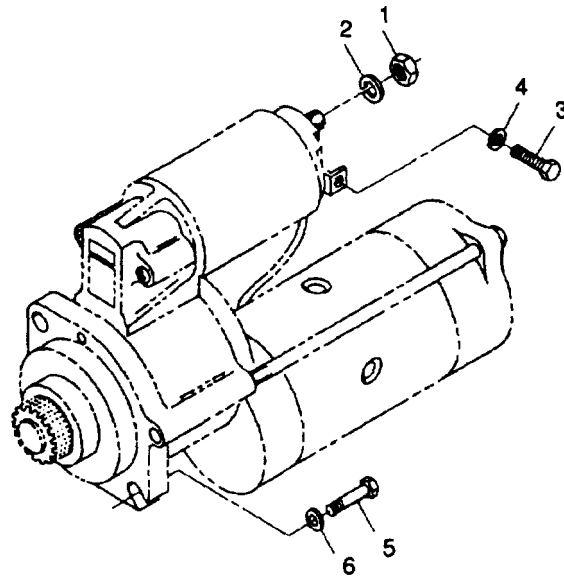

FIGURE 3-21. Starter Connection and Mounting Hardware
- a. Remove nuts (1, FIGURE 3-21), lockwashers (2), capscrew (3), and lockwasher (4). Tag and disconnect all electrical leads. Discard lockwashers.
- b. Support weight of starter and remove two capscrews (5) and washers (6) securing starter. Remove starter.
- (5) Adjust gap by increasing or decreasing number of fiber washers between solenoid and front bracket. Increasing number of washers decreases gap and decreasing number of washers increase gap.
- b. Position starter in flywheel housing and secure with two capscrews (5, FIGURE 3-21) and washers (6). Tighten capscrews to 30 ft-lbs (40.7 Nm).
- c. Connect wires to starter as tagged during removal using capscrew (3), new lockwasher (4), nuts (1), and new lockwashers (2). Remove tags.